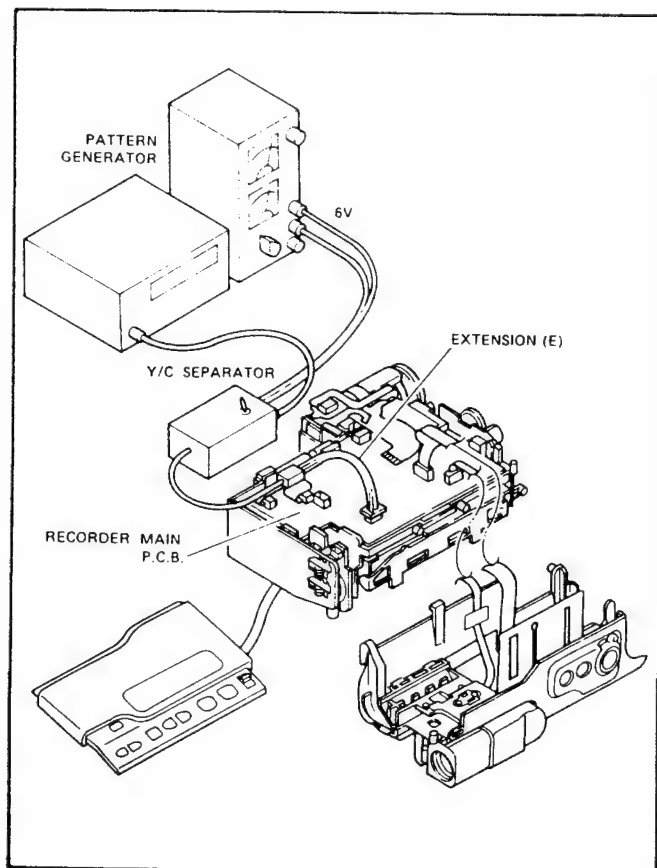

Fig. II-24
- 1) Connect the Y/C Separator as shown in the Figure II-24.